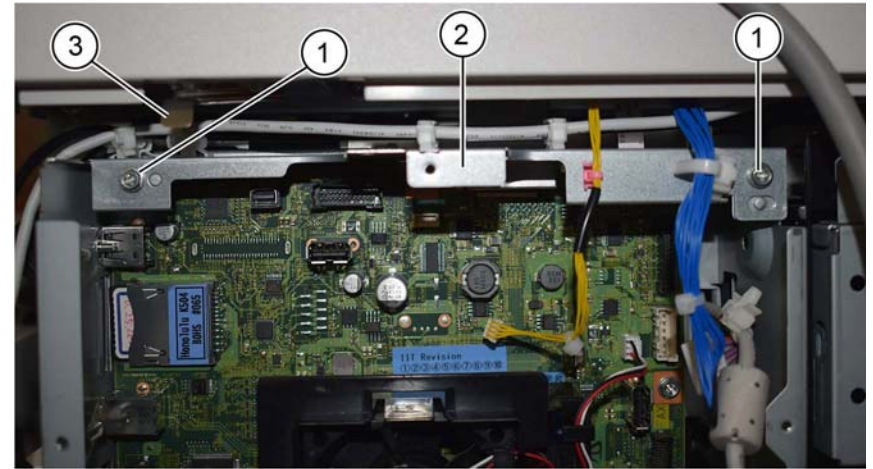

Figure 9 ESS upper panel removal
12. Remove the ESS upper panel, Figure 9:
- a. Remove both screws (1).
- b. Remove the ESS upper panel (2).